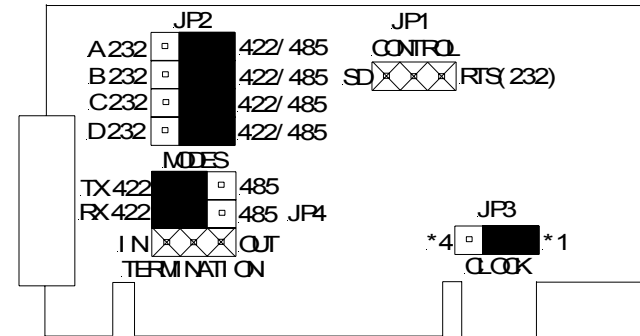

Figure 3. RS-422 Mode Jumper Settings
5. The bottom jumper "Termination" of JP4 switches the 120Ω receiver termination resistor IN or OUT. Typically this resistor is not used. In some cases using high baud rates and very long cables, termination is needed. See B&B's free **RS-422/485 Application Note**, Termination section, page 16, for more information (available on our websites). Figure 3 shows the jumper configuration to set the port for RS-422 mode with \*1 clock enabled.